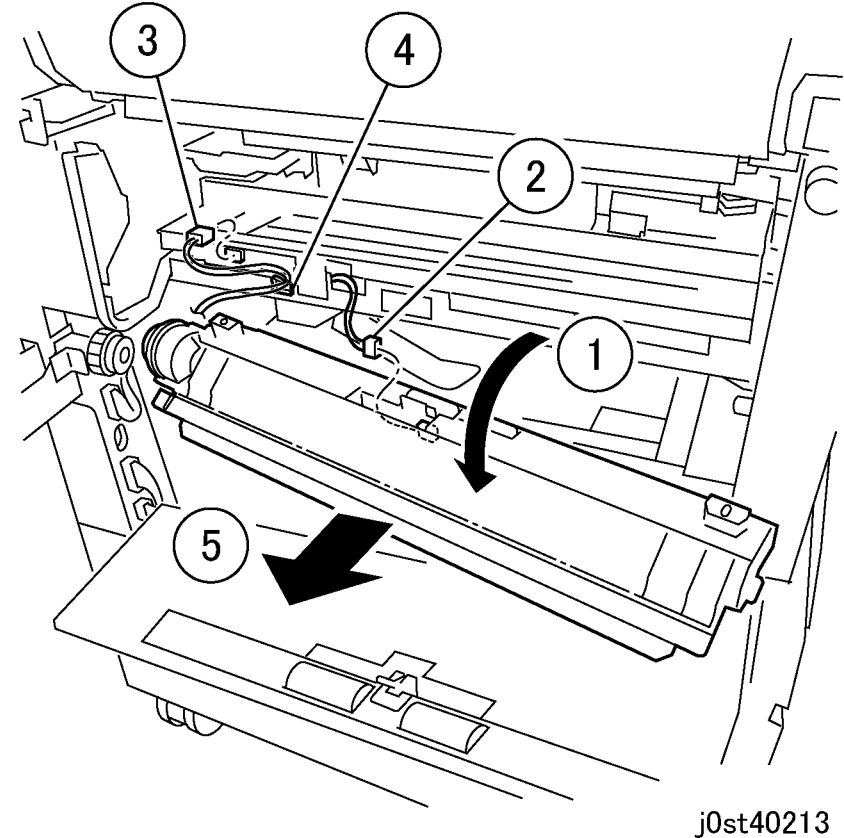

Figure 2 Removing the Registration Assembly (j0st40213)
3. Remove the Registration Assembly. (Figure 2)